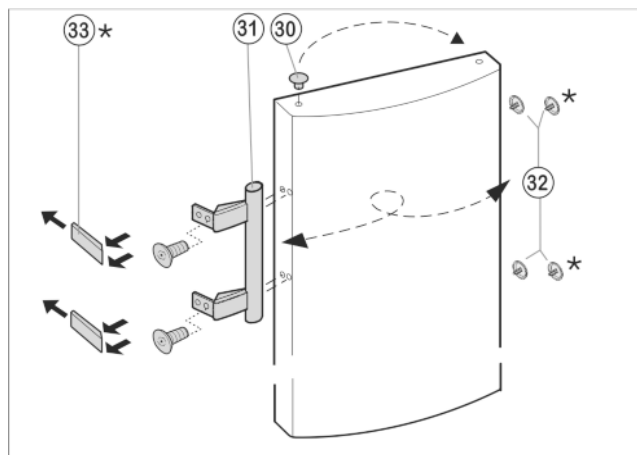

Fig. 8
- ▶ Lift the stopper Fig. 8 (30) out of the door bearing bush and transfer it.
- ▶ Dismantle the door handle Fig. 8 (31), stoppers Fig. 8 (32) and pressure plates* Fig. 8 (33) and transfer to the opposite side.